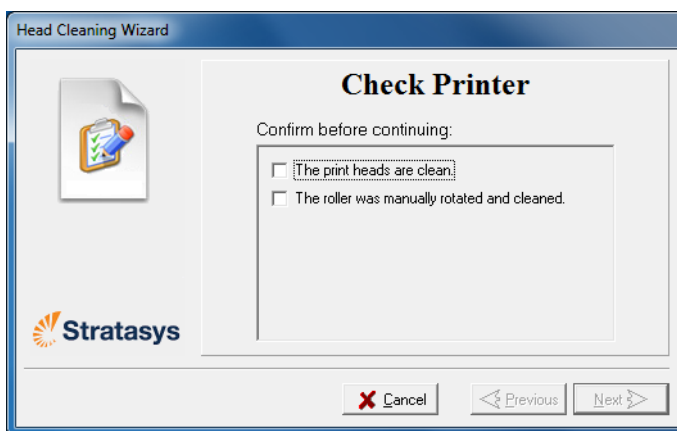

Figure 6-20: Head cleaning wizard—steps 5–11
11. When you have finished cleaning, select the confirmation check boxes in the wizard screen (see figure 6-20) and click Next.